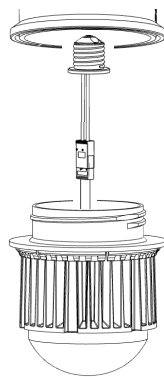

Figure 1 - Screw in socket adapter and connect to the Q-Lux wiring harness
4. Screw the Q-Lux edison based wiring harness counter-clockwise into the existing jelly jar fixtures medium based socket until the edison base adapter is fully secure. Figure 1.
5. Connect the Q-Lux LED to the edison based wiring harness. Make sure connection is secure. Figure 1.